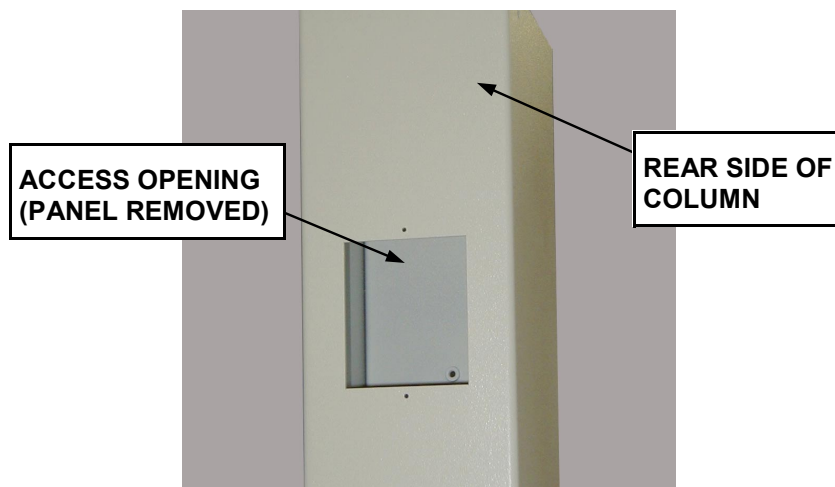

Figure 6. Trim Weight Access Opening Location
20. Remove two (2) screws securing the Access Panel to rear side of Column and remove the Access Panel (see Figure 6).